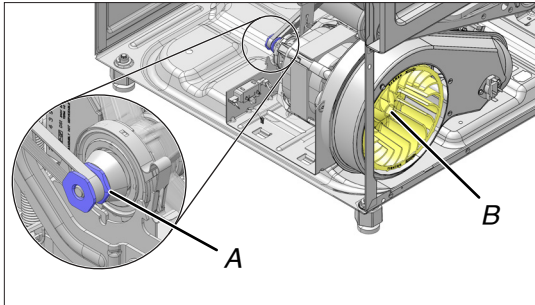

Figure 4
4. Use a 1/2" ratchet extension bar to turn the blower wheel clockwise to remove it as shown in figure 4. The blower wheel has arrows and words to show the correct direction to turn the wheel to remove or tighten it as shown in figure 5.